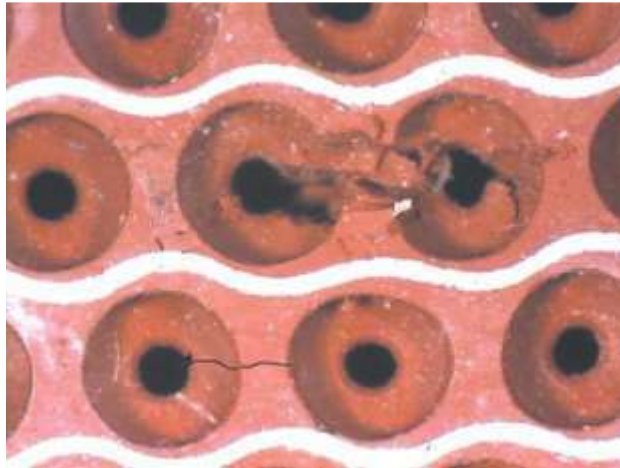

Figure 4
- (6) Key is mispositioned.
- (7) Cut, fractured, or torn connector face, where cut, fracture or tear is in both the dielectric face and the cup diameter, as shown in Figure 4.